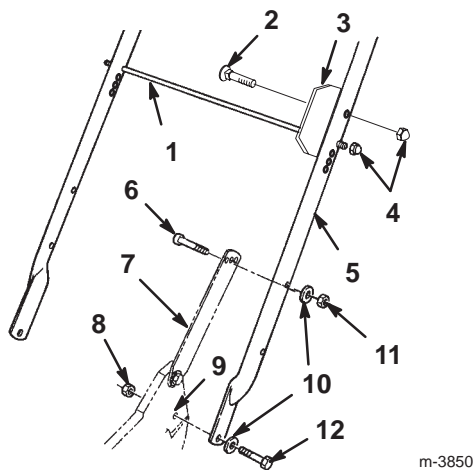

Figure 1
1. Mount the handle to the outside of the lawn mower housing (using the bottom hole) with two 5/16–18 x 1–1/4 in. bolts, washers, and thin nylon insert locknuts (Fig. 1).
2. Secure the handle latches to the handle with two 5/16–18 x 1-1/2 in. bolts, washers, and nylon insert locknuts (Fig. 1).
3. Slide the bag support rod through the bag aligning plate and into the second from the top mounting holes in the handle, and secure each end with a cap locknut (Fig. 1).
4. Insert the carriage bolt through the bag aligning plate and the top hole on the left side of the handle, and secure it with a cap locknut (Fig. 1).